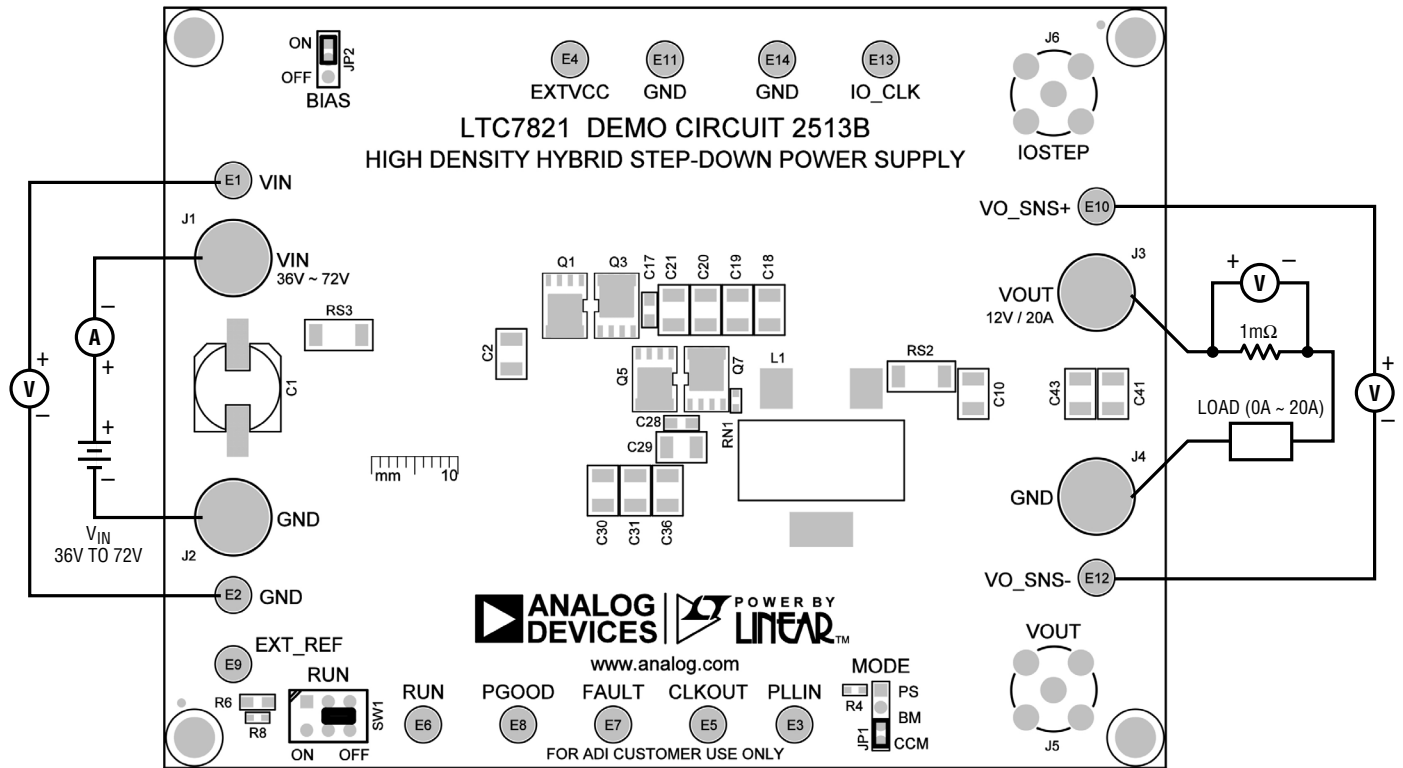

Figure 1. Proper Measurement Equipment Setup
Demonstration circuit 2513B is easy to set up to evaluate the performance of the LTC7821. Refer to Figure 1 for the proper measurement equipment setup and follow the procedure below.
2. Connect the output loads between V_{OUT} and GND (Initial load: no load). Refer to Figure 1.